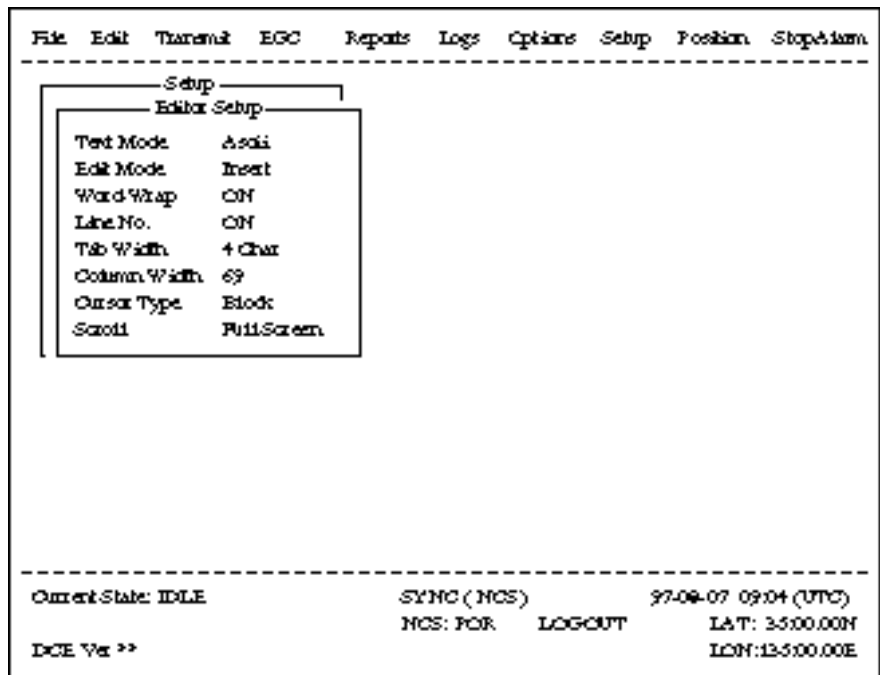

Figure 3-5 Editor setup menu
3. Figure 3-5 shows the default editor setup settings. To change settings, select item with arrow keys, press [Enter] to open selection window, and select settings with arrow keys. After selecting settings, press [Enter].